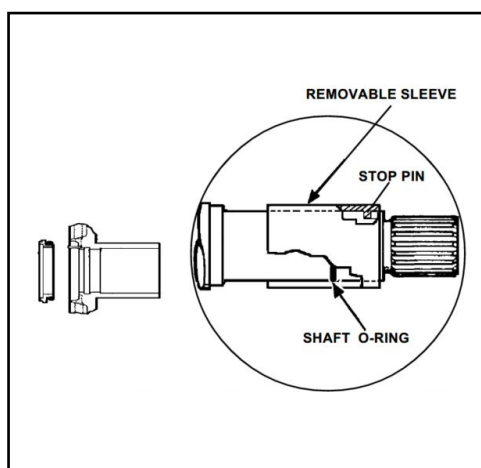

Figure 40 - Clean and inspect shaft sleeves
2. Clean and inspect shaft sleeves; if worn, remove and replace both sleeve and shaft O-ring as shown in Figure 40.